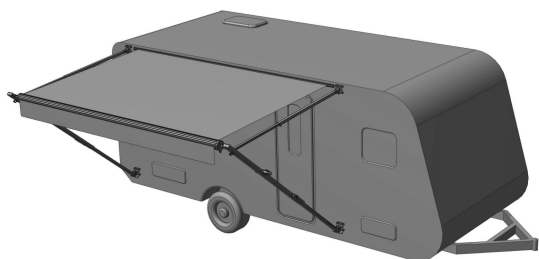

Figure D6
1) Vehicle body support (Figure D6)